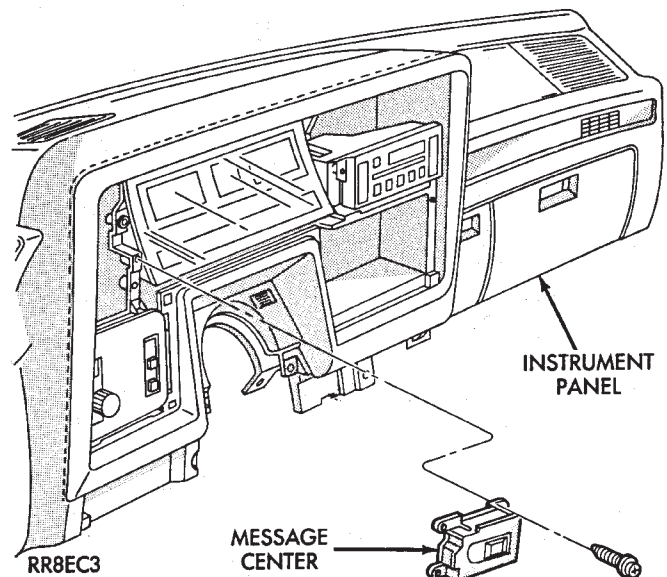

Fig. 32 Message Center
- (2) Remove two attaching screws (Fig. 32).